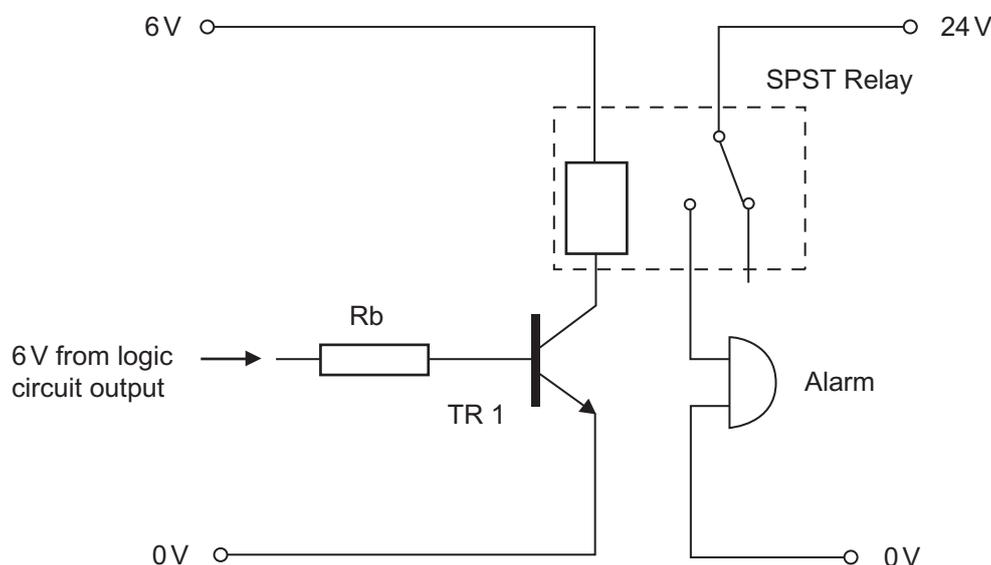

Fig. 10(b)
- (ii) The transistor shown in Fig. 10(b) has a current gain (h_{FE}) of 80 and a base/emitter voltage (V_{be}) of 0.6V. If the resistance of the relay coil is 30 Ohms, calculate the required resistor value for R_b . [4]
(iii) Name a component that should be added to the circuit in **Fig. 10(b)** in order to provide circuit protection. Briefly explain how this component functions to provide circuit protection. [2]